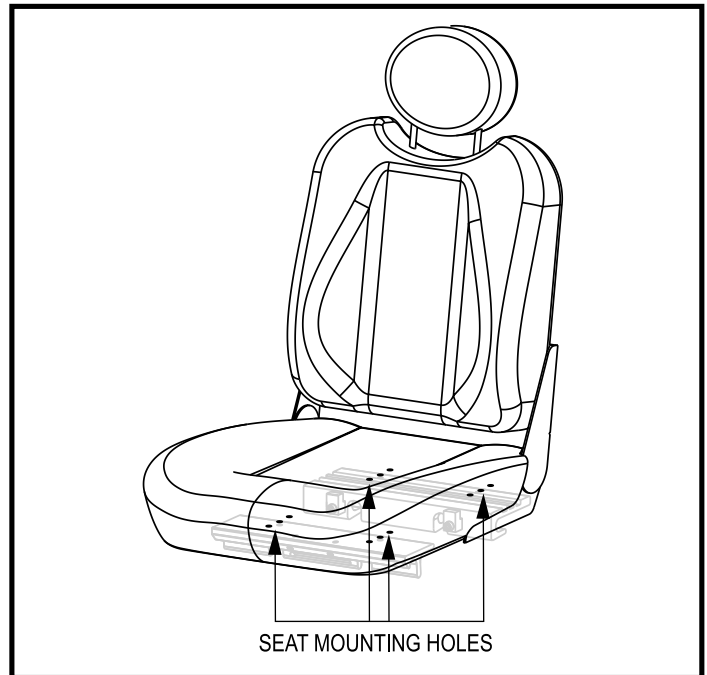

Figure 17. Seat Position (Extrusion Location on Contour Seat)
4. Remove both extrusions from the bottom of the seat. See figure 17.
5. Reposition the extrusions on a different set of mounting holes. You must move both extrusions the same number of holes either forward or backward. See figure 17.